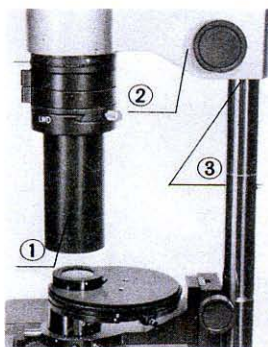

Fig. 3
a) **To illuminate for long working distance (Fig. 3):**